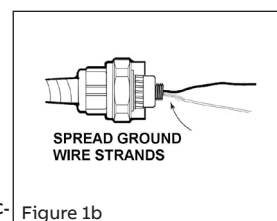

Figure 1b
- Spread insulated conductors slightly. Spread strands of uninsulated grounding conductor where applicable (Figure 1b).